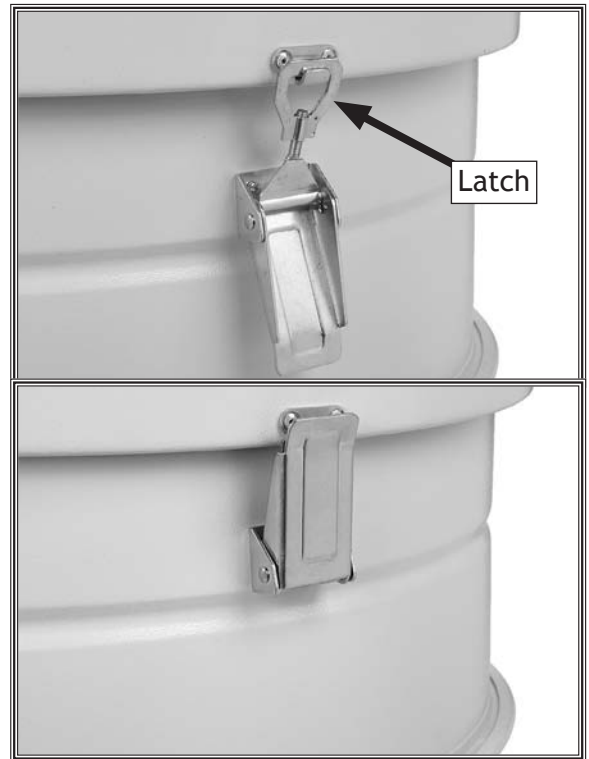

Figure 28. Drum lid latch operation.
24. Place the collection drum lid on the drum assembly, then pull all three latches up and onto the hooks of the lid, as shown in **Figure 28**.
25. When the latches are correctly positioned, pull up on the latch handles, as shown in **Figure 28**.